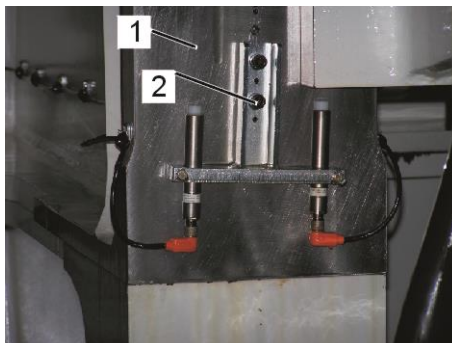

Fig. 31: Mounted double profile type sensor bracket
2. Tighten the profile type sensor bracket (Fig. 31/1) for two sensors with the bolts M8 or M10 (Fig. 31/2) centrally between the crosshead web plate.